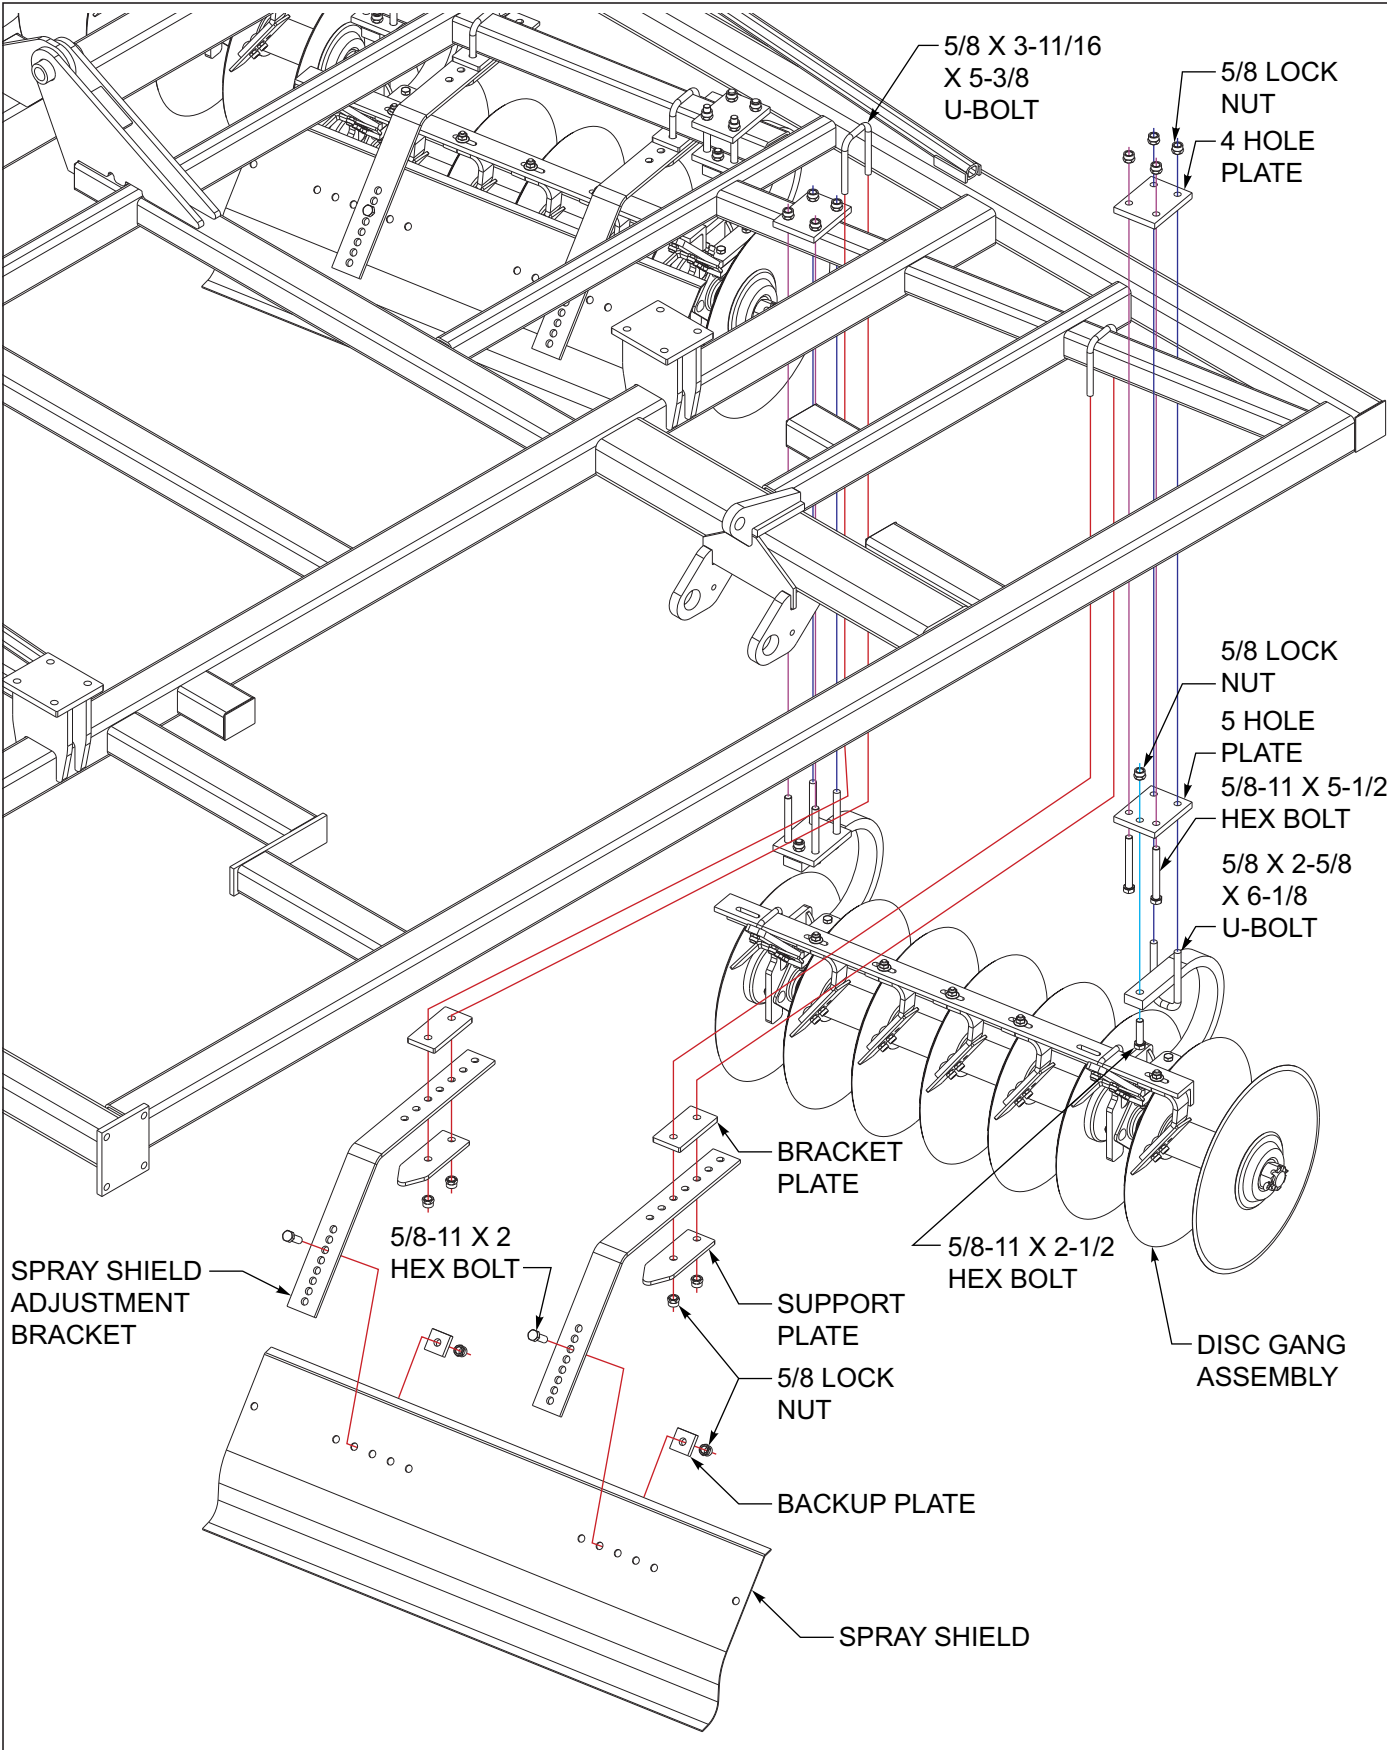

Figure 3-14: Disc Gang And Spray Shield Installation
3. Install disc gangs on main frames using 4 and 5 hole disc mount plates, 5/8 x 2-5/8 x 6-1/8 u-bolts, 5/8-11 x 5-1/2 hex head cap screws, and 1/2 lock nuts See Figures 3-14. (The distance between the disc gang nuts at center of unit should be 1-1/2".)
6. Attach spray shield adjustment bracket to frame, as shown for your model size, using 5/8 x 3-11/16 x 5-3/8 u-bolt, bracket clamp, and 5/8 lock nuts See Figures 3-14. These brackets are attached to frame as shown to incline the shields toward the middle of the machine and carry soil back to center of the main frame. The bracket clamp is installed between adjustment bracket and bottom of frame tube and support plate is installed on the bottom of the adjustment bracket, See Figures 2-1 through 2-6 for location on frame.
7. Attach spray shield to adjustment bracket, as shown in Figures 3-14 using 5/8-11 x 2 hex head cap screw, backup plate, and hex lock nuts. Shields attached in position shown in See Figure 2-1 through 2-6 should be set to allow the machine to operate from 3-5 inches deep. Tighten all spray shield screws and u-bolts.